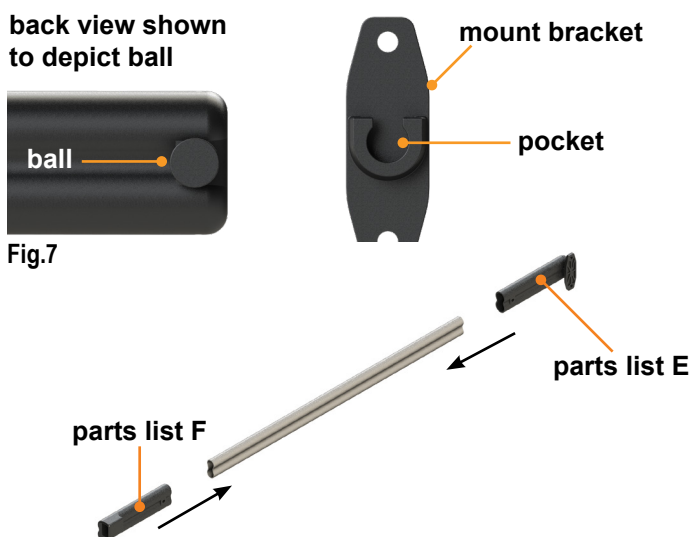

Fig.8
2. Slide the sleeves over the ends of the push bar (Fig. 8)